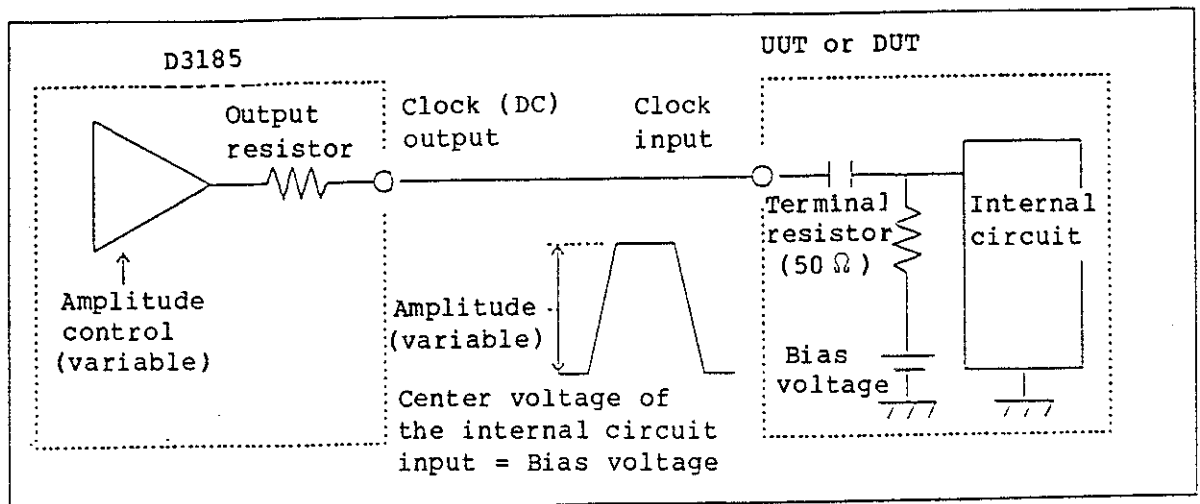

Fig. 4-6 With Clock (DC) Output used in AC mode and AC-connected Terminal
(2) If the UUT or DUT Clock Input is AC-connected (See Fig. 4-6.)